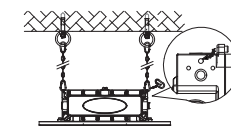
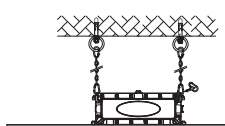

Figure 12
Figure 13
2. Hang the fixture into the lifting hook or chain.(Figure 12) (Figure 13)